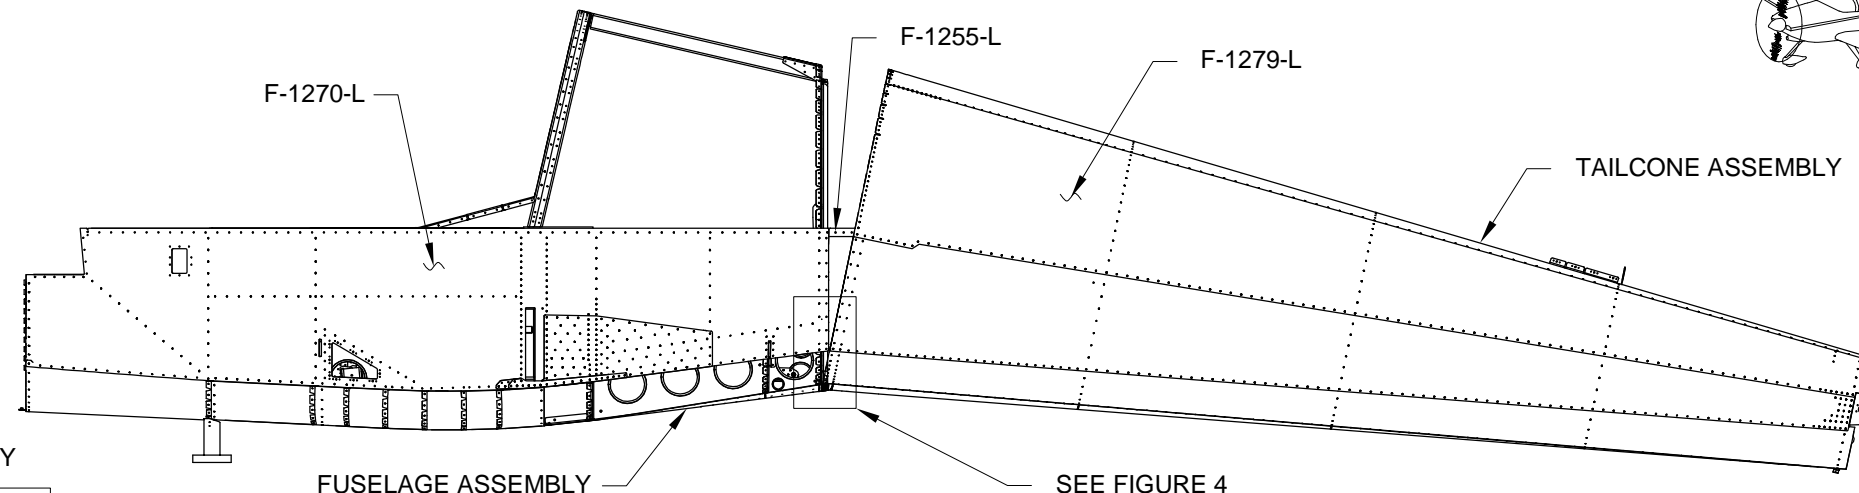
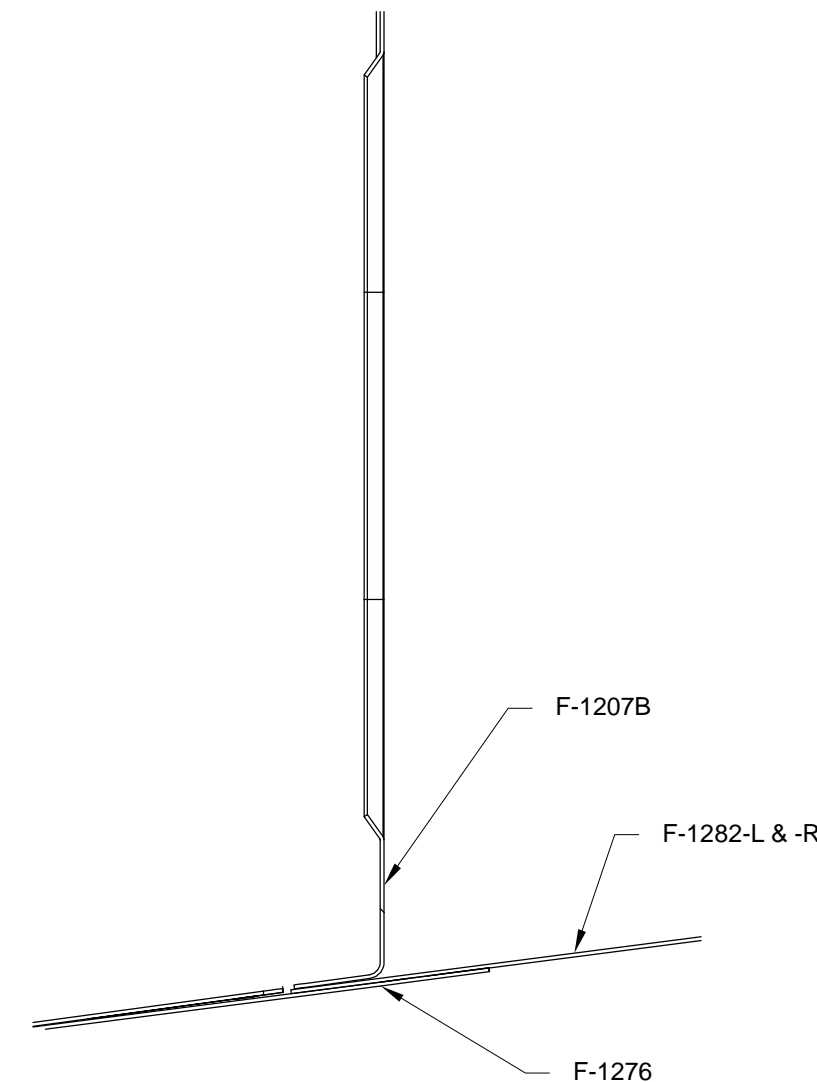

FIGURE 1:
FIGURE 4:
Step 1: Support the Fuselage and Tailcone Assemblies on saw horses. Bring the Tailcone Assembly to the aft of the Fuselage Assembly. Place the forward edge of the F-1282-L & -R Bottom Skins on the aft edge of the F-1276 Bottom Skin as shown in Figure 1. Insert the forward edge of the tailcone bottom skins between the F-1207B Baggage Bulkhead and the fuse bottom skin as shown in Figure 4. Cleco the tailcone bottom skins to the fuse bottom skins. Lift the aft end of the tailcone and guide the tailcone skins outboard of the F-1255-L & -R Longerons and inboard of the F-1270-L & -R Fuselage Side Skins. The F-1279-L & -R Upper Skins are outboard of the fuselage side skins, see Page 25-04, Figure 2. Cleco the lower half of the Tailcone Assembly to the Fuselage Assembly in about ten places. Shake the aft end of the Tailcone Assembly up, down, left and right to ensure that the clecoes are set completely.